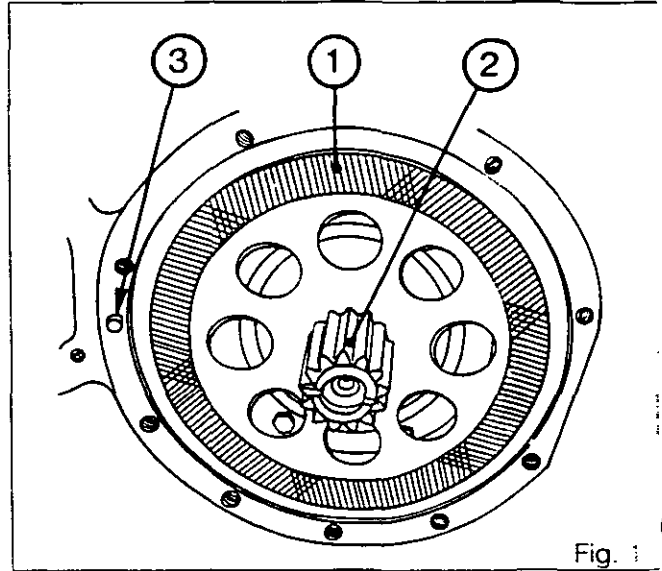

Fig. 1
3. Remove the disc (1), the planetary shaft (2), the dowel (3) (Fig. 1).
17. Refit the planetary shaft (2), the disc (1) and the dowel (3) (Fig. 1).
20. Refit the planetary shaft (2), the disc (1) and the dowel (3) (Fig. 1).